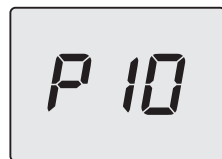

Figure 5.50
- Scroll through the various parameters by pressing the keys 14 (back) or 16 (forward), until **P10**, which alternates with the parameter value, appears on the LCD display (Figure 5.50).